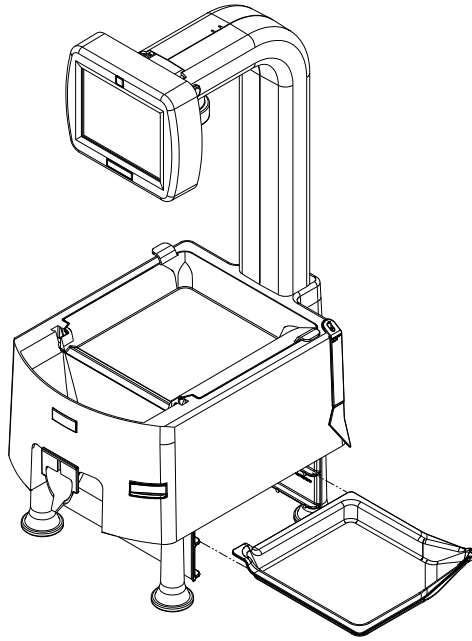

Figure 1.6 Storing Sulfa and Penicillin Platters
6. Insert the sulfa and penicillin platters in between the brackets (refer to Figure 1.6).